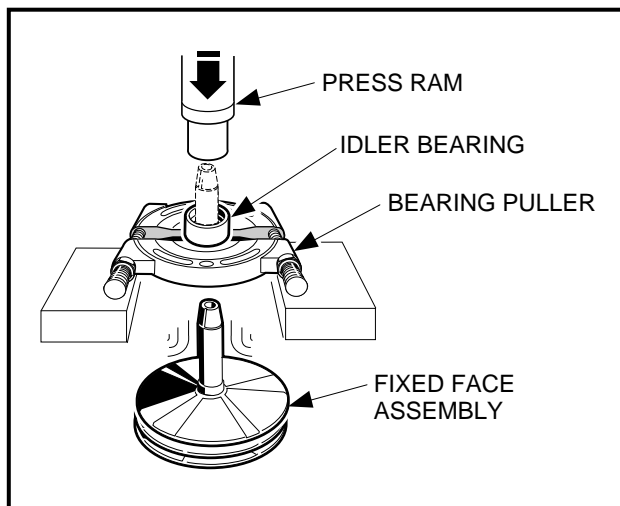

Figure 17-10 Remove Idler Bearing
8. If necessary, remove idler bearing. Use a press to remove the bearing (**Figure 17-10, Page 17-9**). See following **NOTE**.